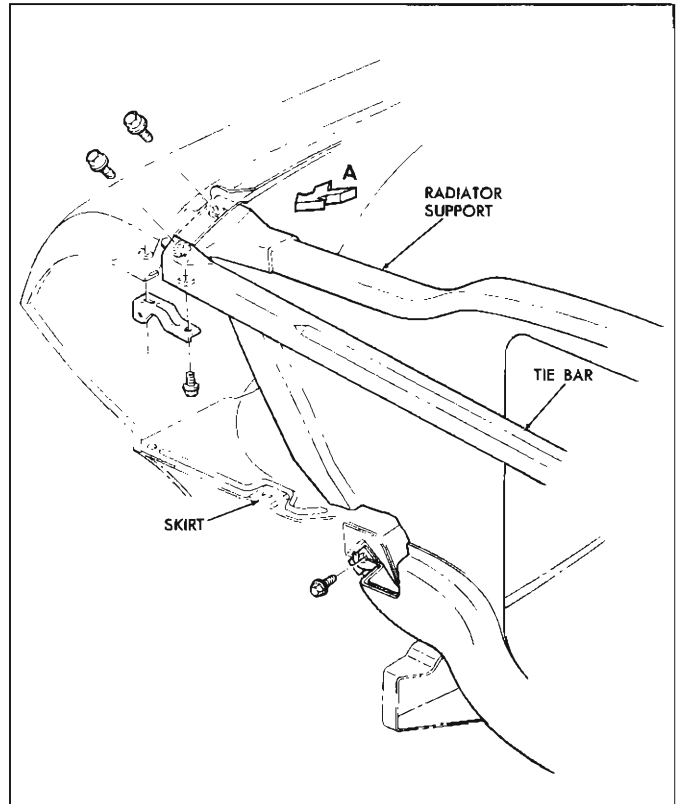

Fig. 104—Radiator Support and Tie Bar
## RADIATOR SUPPORT (fig. 104)
2. Referring to Figures 104 and 105: Remove two screws retaining fender to radiator support. Remove one screw retaining fender to tie bar. Remove one screw retaining fender to tie bar extension.